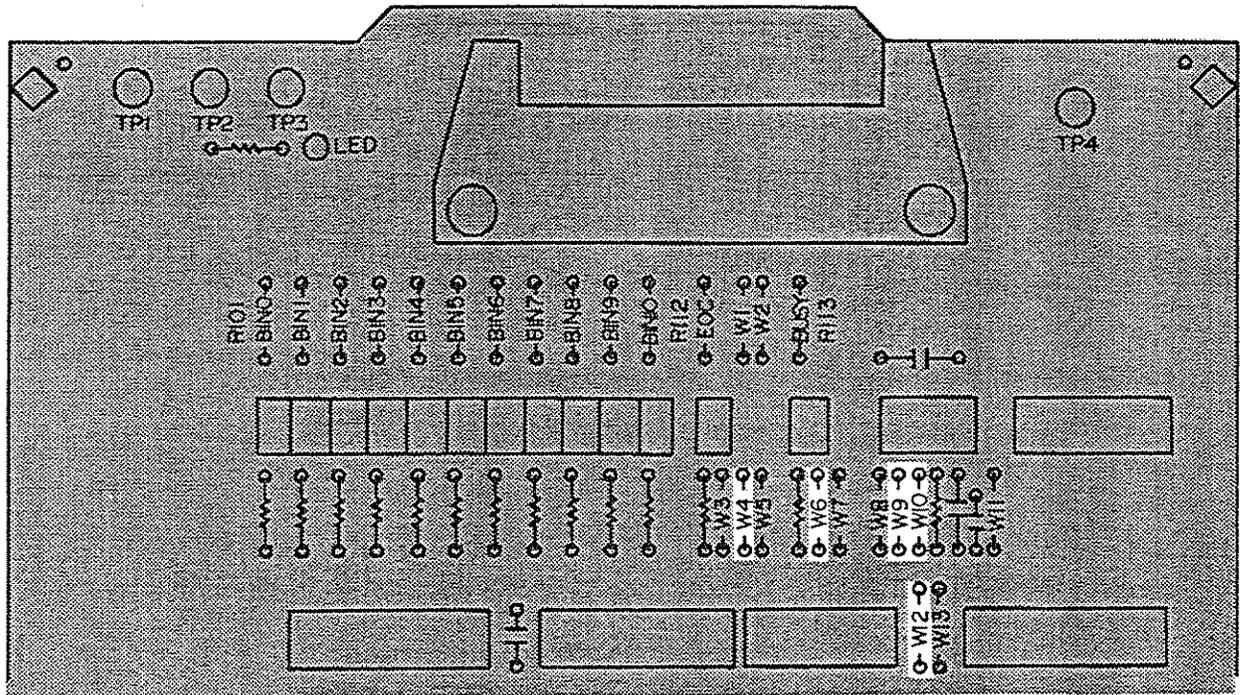

Figure 3-15. EA M015 Jumper and Pull-Up Resistor Locations
2. Configure the following interface signals by installing the jumpers as shown in Figure 3-15.